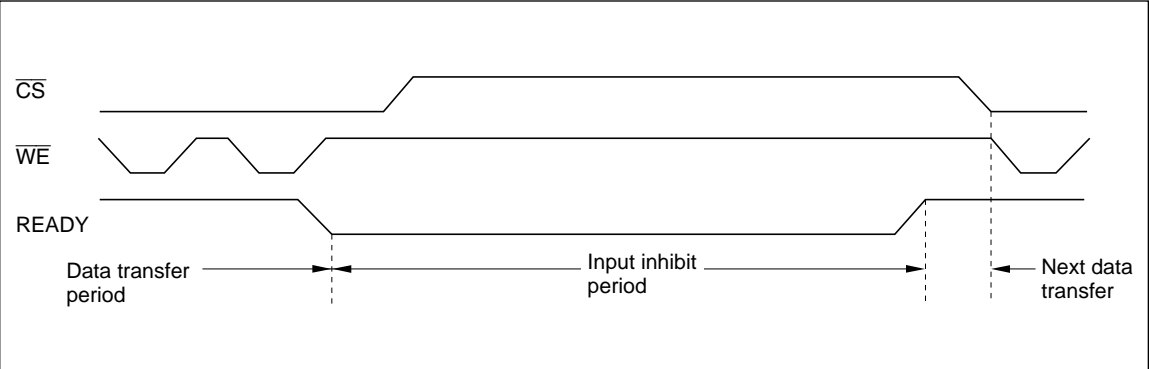

Figure 16 READY Output Timing (When It Is Always Available)
- a. READY is always available (figure 16).